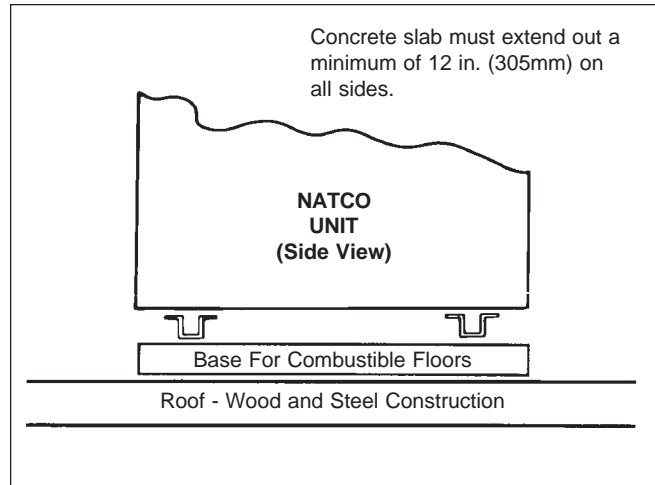

Figure 11. Standard base for combustable floor.
**Do not** install the heater directly on carpeting without placing a non-combustible platform between the carpeting and the heater. If the heater is installed in a carpeted alcove, the entire floor of the alcove must be covered by a non-combustible panel. The panel must be strong enough to carry the total weight of the heater and all piping, pumps, and any other equipment attached to the heater. For rooftop installation, see Figure 11 through Figure 13.